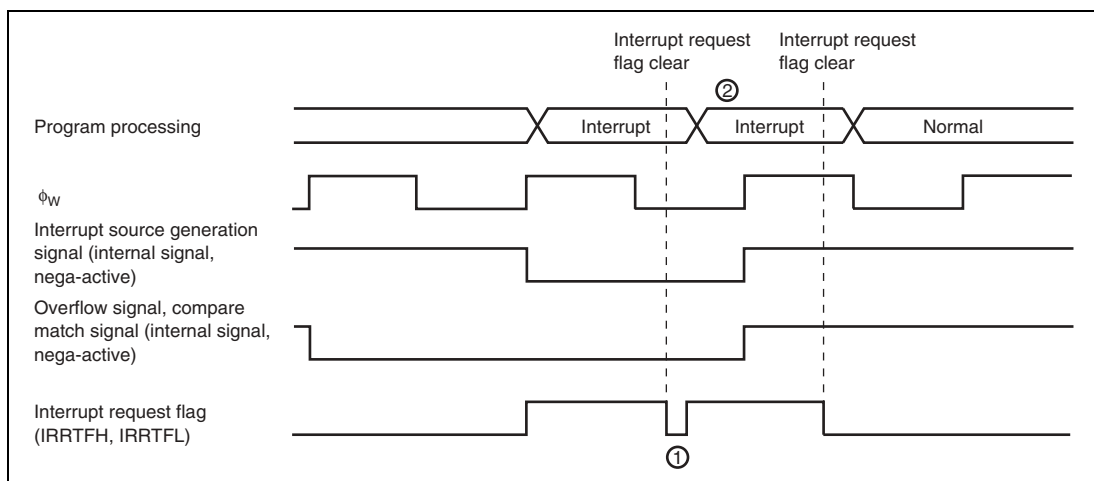

Figure 11.3 Clear Interrupt Request Flag when Interrupt Source Generation Signal is Valid
When $\phi_w/4$ is selected as the internal clock, "Interrupt source generation signal" will be operated with ϕ_w and the signal will be outputted with ϕ_w width. And, "Overflow signal" and "Compare match signal" are controlled with 2 cycles of ϕ_w signals. Those signals are output with 2-cycle width of ϕ_w (figure 11.3)
In active (high-speed, medium-speed) mode, even if you cleared interrupt request flag during the term of validity of "Interrupt source generation signal", same interrupt request flag is set. (1 in figure 11.3) And, the timer overflow flag and compare match flag cannot be cleared during the term of validity of "Overflow signal" and "Compare match signal".
For interrupt request flag is set right after interrupt request is cleared, interrupt process to one time timer FH, timer FL interrupt might be repeated. (2 in figure 11.3) Therefore, to definitely clear interrupt request flag in active (high-speed, medium-speed) mode, clear should be processed after the time that calculated with below (1) formula. And, to definitely clear timer overflow flag and compare match flag, clear should be processed after read timer control status register F (TCSRf) after the time that calculated with below (1) formula.